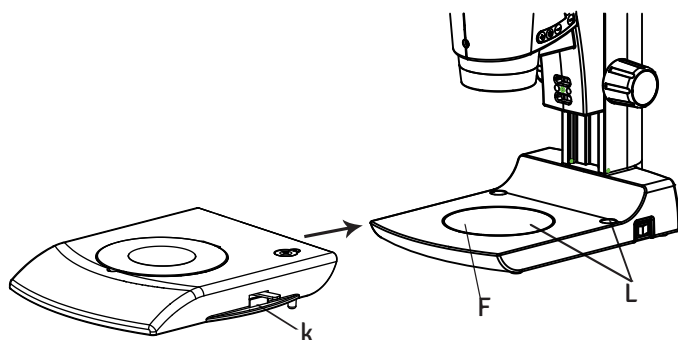

Fig.2
1. Remove Black & White specimen plate from base pressing the plate as shown in fig. 2.
2. Place the Dark Field Base gently on to the Luxeo 6i base by matching the Guide pins of Dark Field base (K) with the Guide holes (L). Refer fig.2.
3. The 9 pin male connector below dark field base will automatically connect to the female 9 pin inlet (F) while lifting up the disc gently on the Luxeo 6i base. Refer fig. 2 & 3.